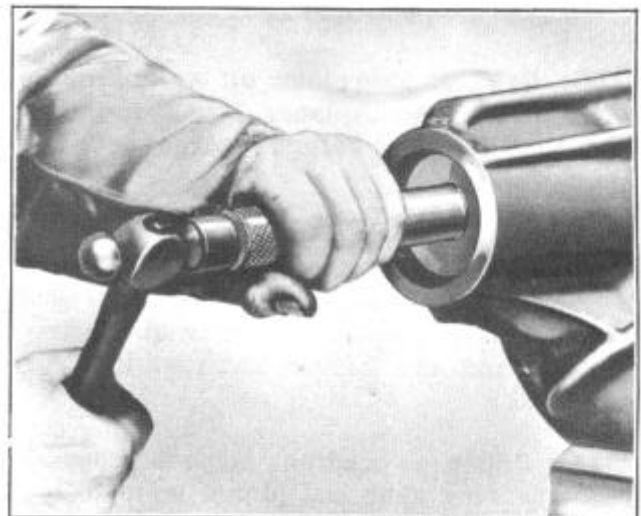
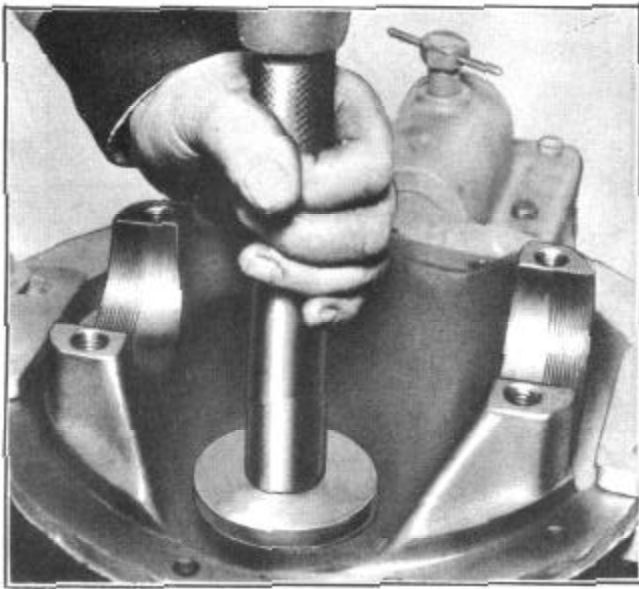

FIGURE 23
FIGURE 24
1. Install front and rear drive pinion bearing cups in carrier using cup replacing Tool J-2943 for front cup, Figure 23, and J-2944 for rear cup, Figure 24.